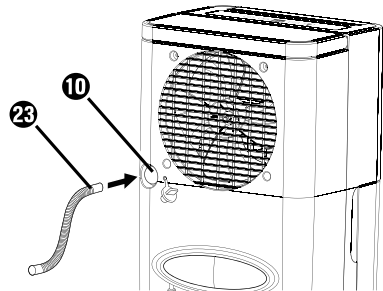

Fig. 4
- ◆ Connect either the supplied hose **23** or the EU garden hose adapter **24** to the water outlet opening **10** (see figures 4 and 5).